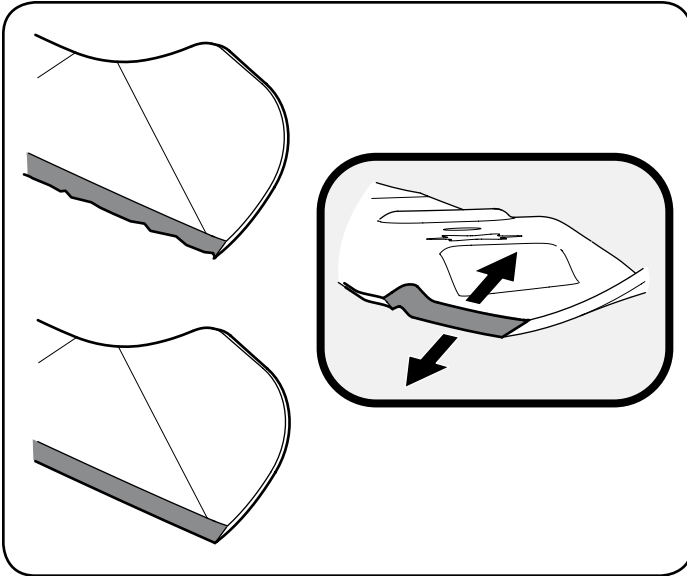

Figure 30
4. To properly sharpen the cutting blades, remove equal amounts of metal from both ends of the blades along the cutting edges, parallel to the trailing edge, at a 25°- to 30° angle. Always grind each cutting blade edge equally to maintain proper blade balance. See Figure 30.